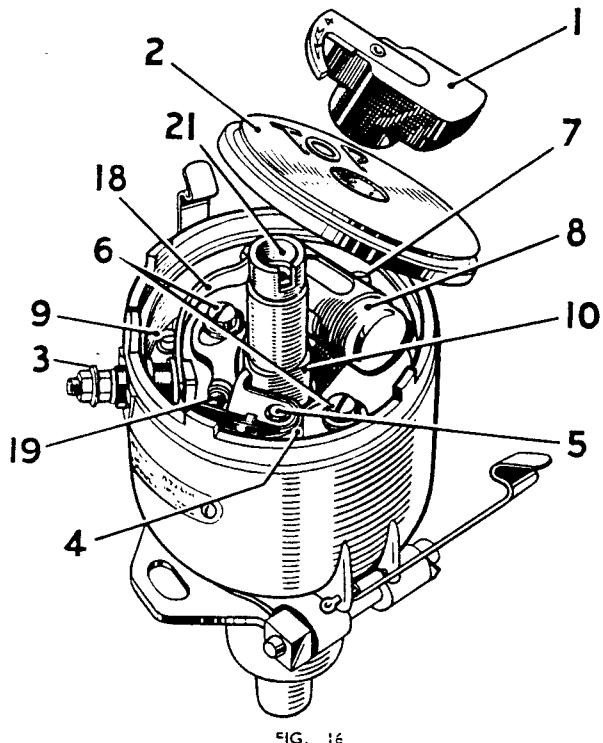
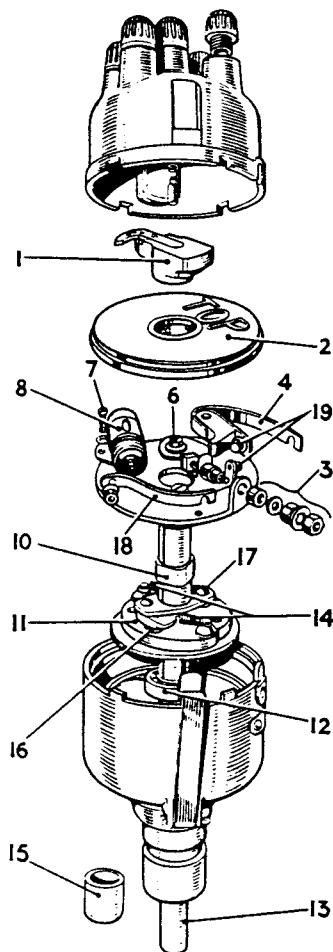

FIG. 16
FIG. 17
**Lubrication (See Fig. 16).**
1. Keep the engine crankshaft in the position giving maximum contact opening and slacken the two screws (6), Fig. 16, securing the fixed contact plate.
2. Lift the rotor (1), Fig. 17, off the top of the spindle. If it is a tight fit, it should be gently levered off.
3. Remove the dust excluding plate (2).
4. Slacken the nuts (3) on the terminal post and lift off the end of the contact
breaker spring (4). The contact breaker lever can now be lifted off its pivot (5), Fig. 16. Take out the two screws (6), complete with spring washers and flat steel washers, which secure the plate carrying the fixed contact point, and remove the plate.
- Remove the screw (7) securing the condenser clip, lift the slotted terminal connection off the post and remove the condenser (8).
- Remove the locking nut (3) and insulating bush from the terminal post on the outside of the distributor body. The terminal post complete with insulating bush and locating tag can now be removed from the inside.
7. After the removal of the two screws (9), Fig. 16, and spring washers fitted at the edge of the contact breaker base, the latter can be removed from the body of the distributor.
9. The cam (10), Fig. 17, automatic timing control assembly (11), and shaft assembly complete with ball bearing (12) can be removed from the distributor body by gently tapping the distributor shaft (13) at the driving end.
1. Remove the bearing bush (15), Fig. 17, from the lower end of the body by using a hand press and a rod of suitable diameter.
4. Place the contact breaker base in position on the distributor body and secure by replacing the two fixing screws (9), Fig. 16, together with spring washers.
5. Replace terminal bolt, locating tag, and insulating bush through the hole in the contact plate and the corresponding hole in the distributor body and secure in this position by fitting the insulating bush and nut (3) on the outside of the distributor body.
6. Position the plate carrying the fixed contact point on the contact breaker base and secure it in position by means of the two screws (6), first placing a spring washer and flat steel washer under the head of each screw.
7. Locate the slotted head of the condenser strip (18) under the head of the terminal bolt and secure the condenser in position by means of its screw.
8. Place the insulating washer over the contact breaker pivot pin (5), Fig. 16, and position the contact breaker lever on the pin. Locate the slotted end of the contact breaker spring (4) between the head of the terminal screw and condenser strip and tighten the nut to lock the spring in position. Adjust the contact breaker setting to give a gap of .010" to .012" (.25-.30 mm.) when fully opened.
**Note :** If it becomes necessary to renew the contact points (19), fit a replacement set comprising fixed and moving points.
9. Replace the dust excluding plate (2) and place the rotor (1) on top of the spindle, locating the register correctly and pushing the rotor fully home.